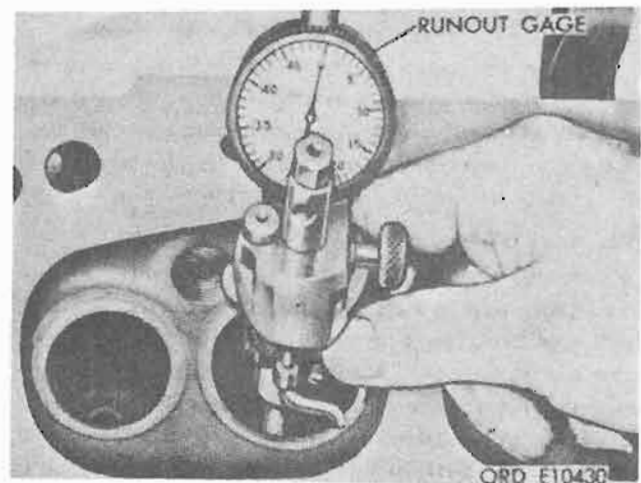
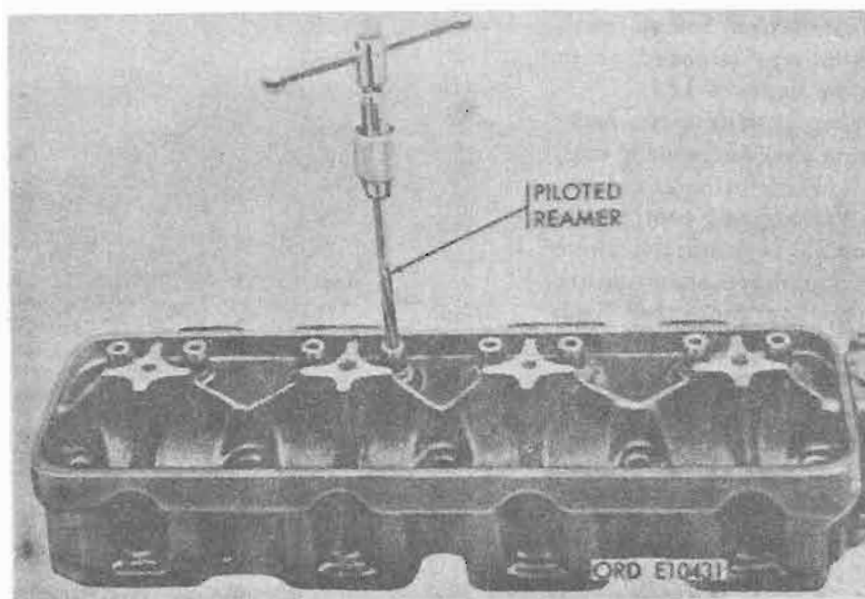

Figure 4-132. Valve seat runout—typical.
Figure 4-133. Reaming valve guides—typical.
h. *Valve Seat Runout.* Check valve seat runout with an accurate gage (fig. 4-132). Follow the instructions of the gage manufacturer. When going from a standard size valve to an oversize valve, always grind valve seat after valve guide has been reamed (fig. 4-133).